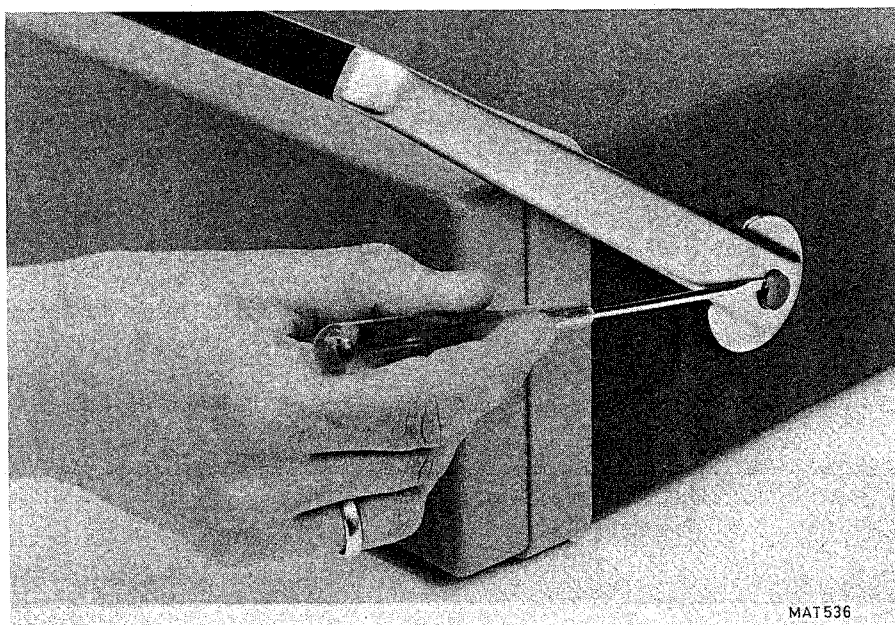

Fig. 3.2. Removing the carrying handle
- Prise off the centre knobs from each pivot, using a screwdriver (Fig. 3.2.) in one of the small slots at the sides of the knobs.